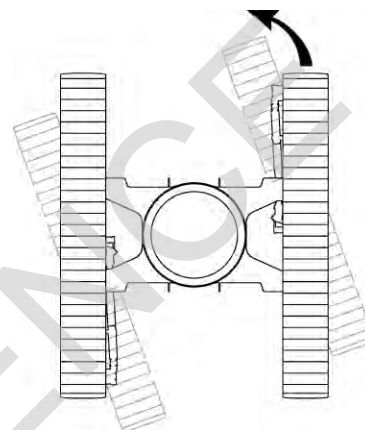

Figure 3-26. Travel Left (sharp turn)
- To make a SHARP LEFT TURN (Figure 3-26), move the right crawler control handle forward from the neutral position and leave the left crawler control handle in the neutral position. The crane will pivot about the left crawler.